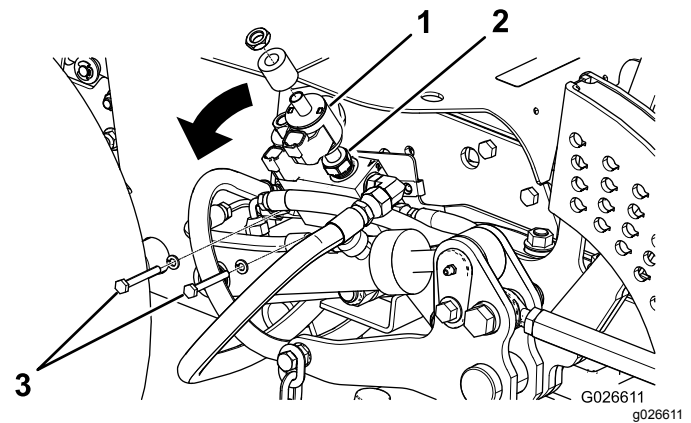

Figure 9
- B. Slide the coil up to obtain access to the solenoid valve, and gently break the solenoid valve loose (Figure 9).
- C. Remove the 2 bolts securing the lift-valve manifold (Figure 9).
- D. Tip the lift-valve manifold outward (Figure 9).